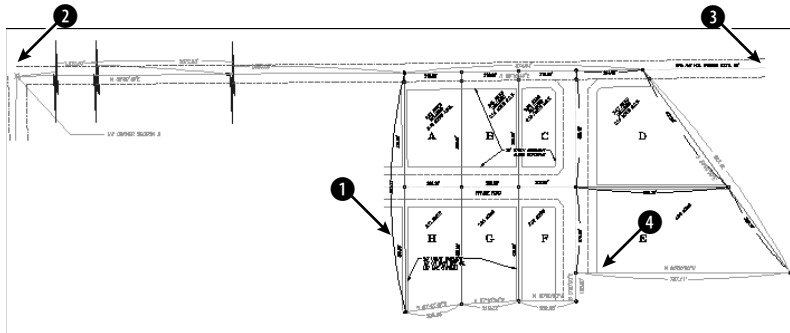

**Figure 12-5:** A civil engineering drawing of several plots of land.
1. Open `ab12-a.dwg` from the CD-ROM if it isn't already open from the previous exercise. This is a civil engineering drawing that shows several plots of land, as shown in Figure 12-5. OSNAP should be on. Set a running object snap for the endpoint.
2. Choose **Tools** ⇨ **Inquiry** ⇨ **List**. At the **Select objects:** prompt, pick ❶ in Figure 12-5. Press **Enter** to end object selection. The result is shown in Figure 12-6. Note the surveyor's units.
3. Choose **Tools** ⇨ **Inquiry** ⇨ **Distance**. At the **Specify first point:** prompt, choose the endpoint at ❷ in Figure 12-5, using the endpoint running object snap. At the **Specify second point:** prompt, choose the endpoint at ❸. Here's the result:
4. Choose Tools ⇨ Inquiry ⇨ ID Point. At the Specify point: prompt, pick the endpoint at ④ in Figure 12-5. Here is the result: